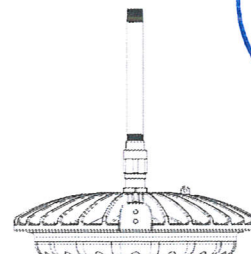

Figure 4
- ☞ The mounting type is for the use of straight electrical tube mounting (Figure 4).